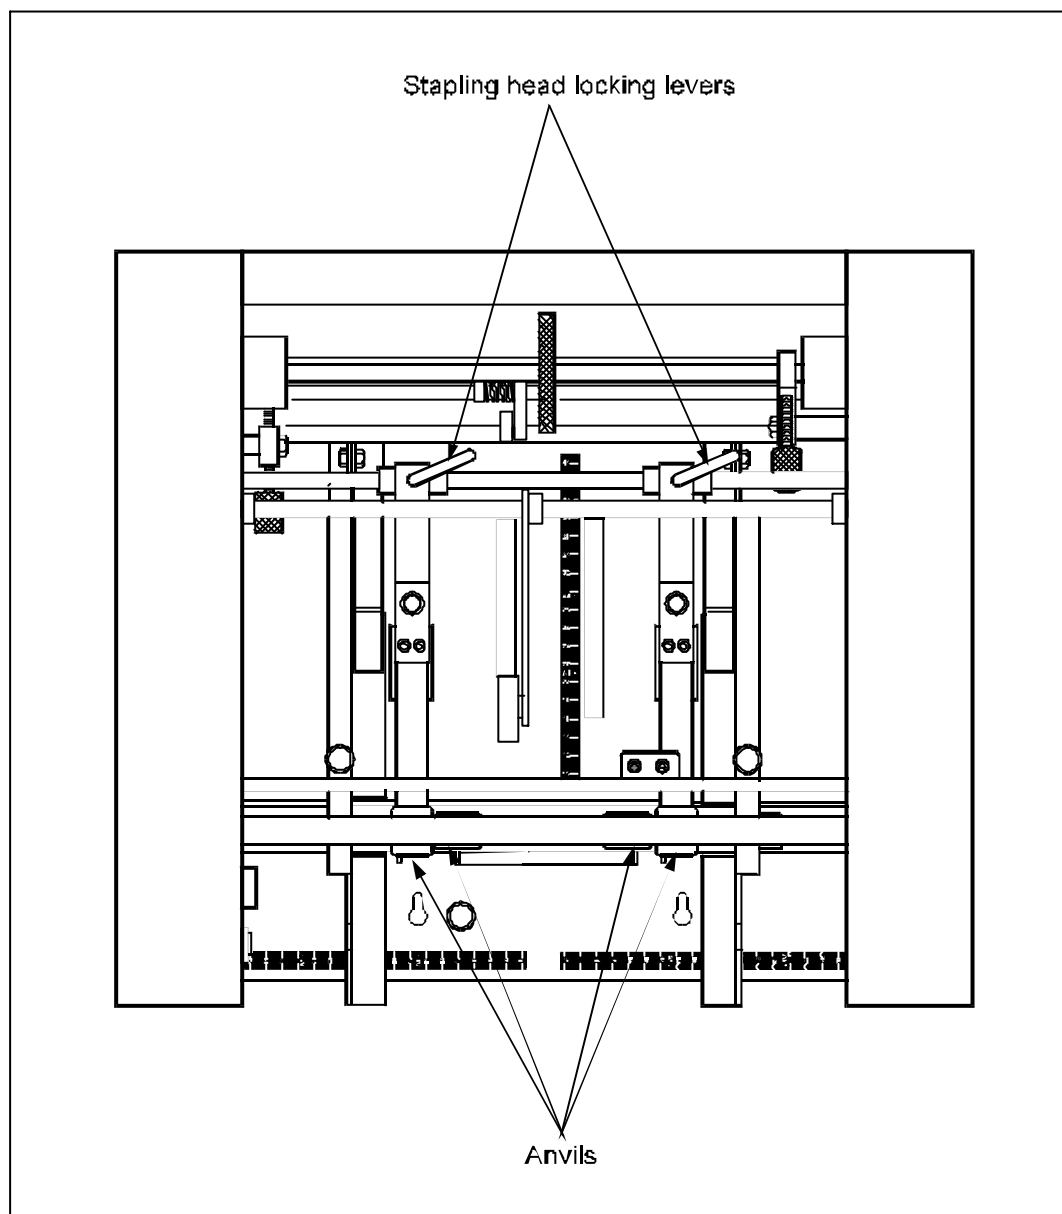

Figure 7 - Stapling head adjustment and anvil positions (centre head not shown).
1. To move the stapling heads to the alternative positions, loosen the stapling head locking levers, figure 7, several turns and then slide the entire stapling unit to the new position.